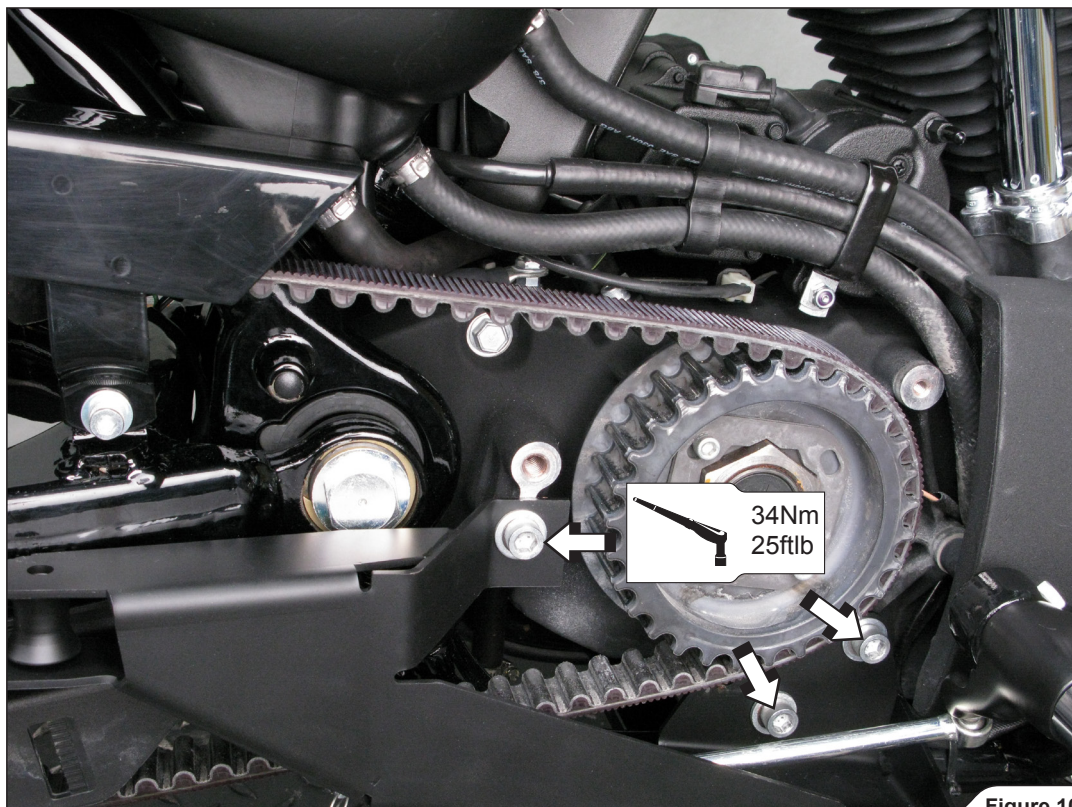

Figure 10
2. Install the Akrapovič mufflers' bracket, using original bolts (Figure 10).